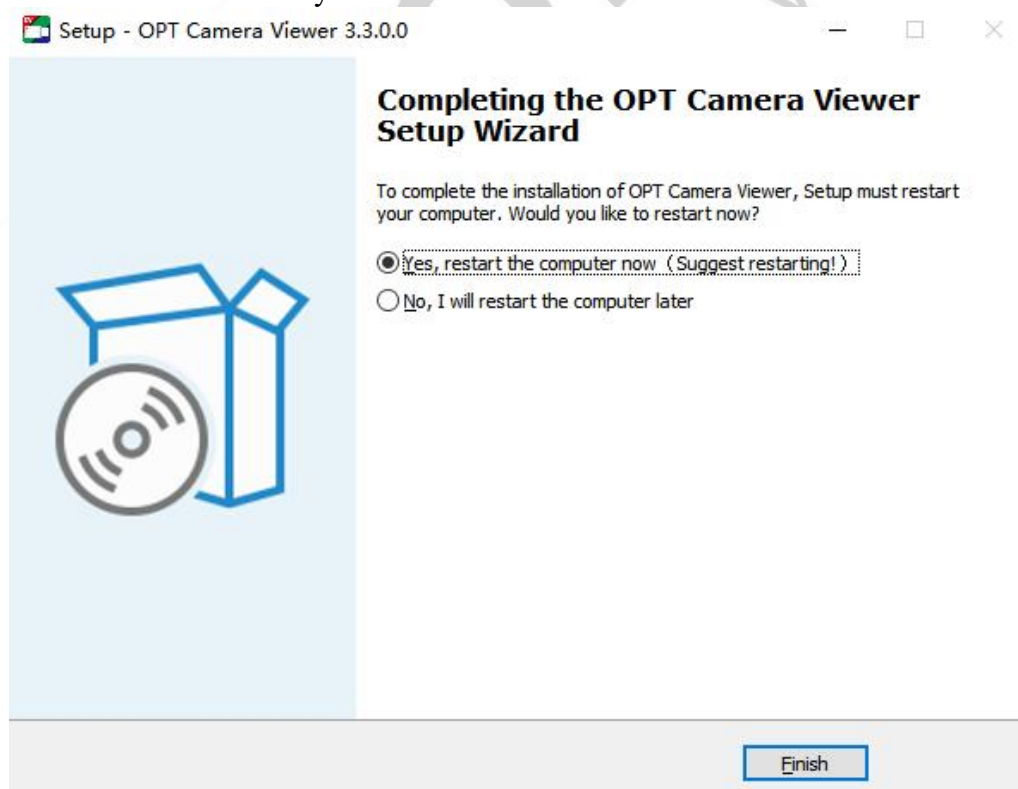

Figure 3-7 Software installation success window
8. The software installation success window pops up as shown in Figure 3-7. The software OPT Camera Viewer is successfully installed. Click the Finish button to end the installation process.